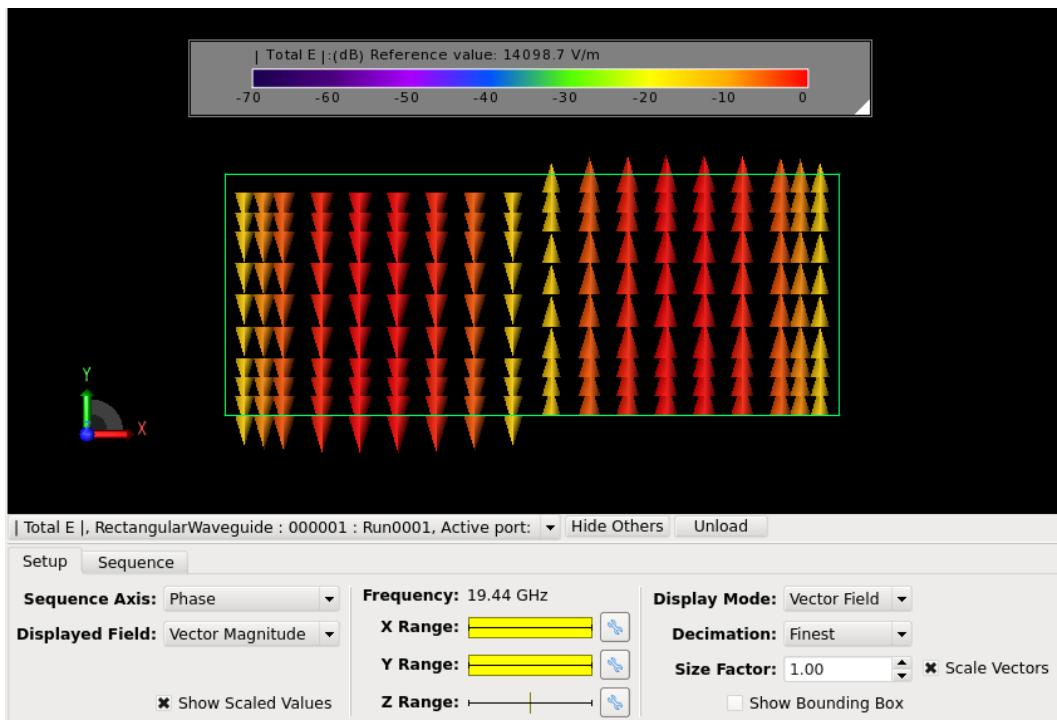

Figure 5.30: Solid Sensor Results in the XY Plane
- Figure 5.30 shows the electric field lines in the XY plane of our waveguide. They match figure 3.9 in the reference.